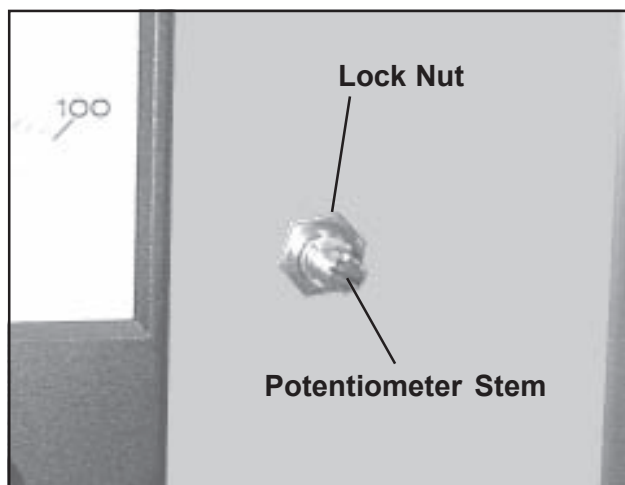

Figure 109. Calibration Potentiometer Lock Nut (Knob Removed)
8. With a 1/2-in. wrench, remove the lock nut behind the knob (Figure 109).
2. Secure the potentiometer with the lock nut (Figure 109).